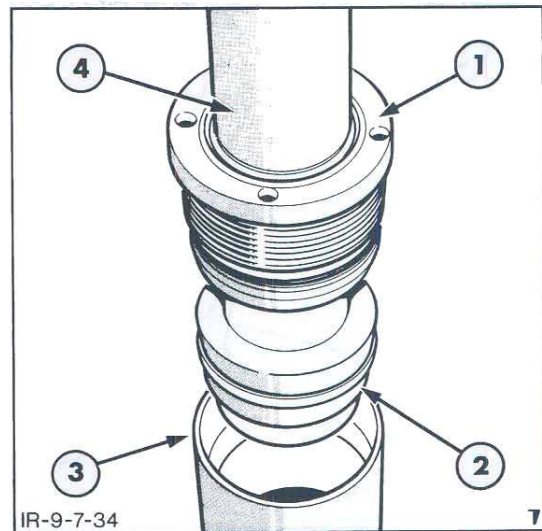

Figure 51
12. Place the cylinder barrel in a vertical position open end uppermost and insert the piston and rod assembly into the barrel, Figure 51. On cylinders with threaded gland retention take care not to damage the piston wear rings and seal by rubbing against the internal threads of the barrel.